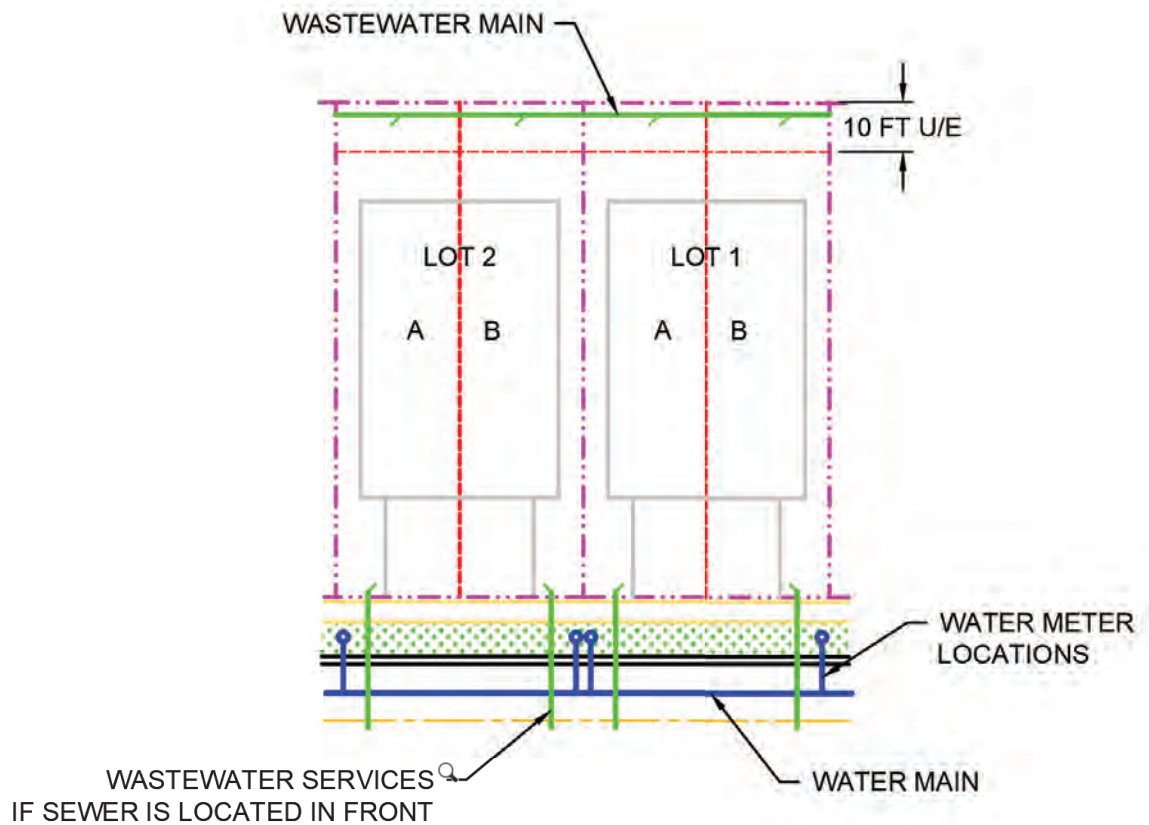

Figure 24 - Duplex Layout
- 1.1. Any residential subdivision and/or commercial complex development where any exterior boundary of the development is within one-half (1/2) mile of an existing main or main under construction, the development is required to extend public water mains to and across the development in accordance with this Manual. See Figure 24.
- 1.2. Any residential subdivision and/or commercial complex development within the same wastewater shed subbasin, as delineated by the United States Geological Survey (USGS), and where any exterior boundary of the development is within one-half (1/2) mile of any an existing public wastewater main or main under construction the development is required to extend the public wastewater mains to and across the development in accordance with this Manual. See Figure 24.